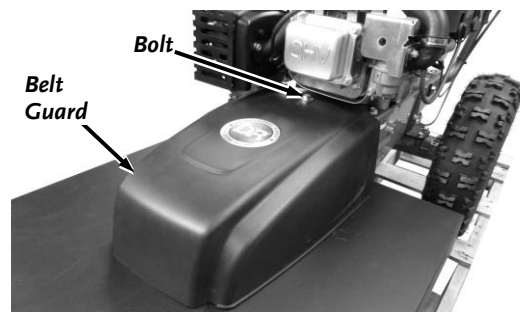

Figure 21
1. Remove the Belt Guard by unscrewing the Bolt using a 9/16" Wrench (**Figure 21**).
21. Install the Belt Guard and secure with the Bolt using a 9/16" Wrench (Figure 21).